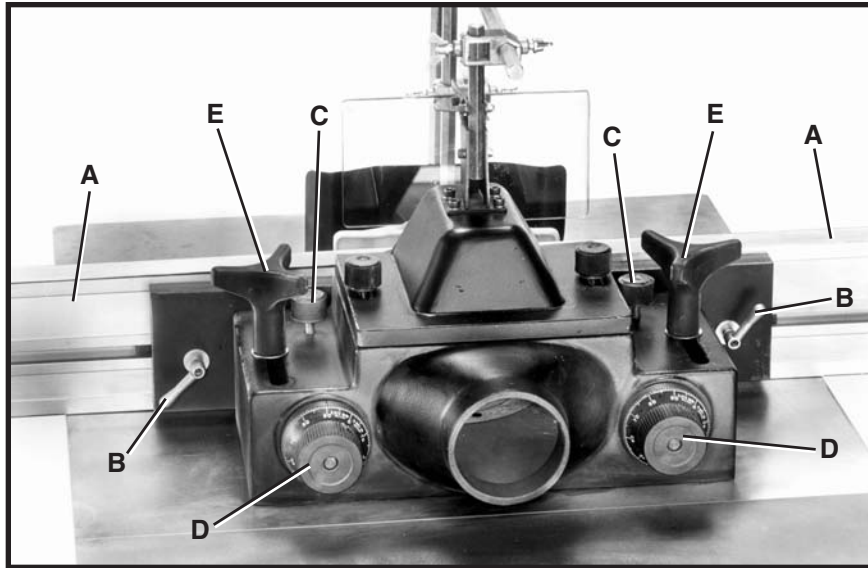

Fig. 48
1. **DISCONNECT SHAPER FROM POWER SOURCE. IMPORTANT:** The fence halves (A) Fig. 48, should be adjusted endwise so the opening at the spindle is never more than is required to clear the cutter.
2. To adjust the fence halves (A) Fig. 48 endwise, loosen the two fence locking levers (B), slide the fence halves to the required positions, and tighten locking levers (B).
3. Each fence half (A) Fig. 48, can be moved independently, forward or backward, depending on the type of shaping operation that is being performed. To move the fence halves in or out, loosen one of the lock knobs (C) and turn one of the adjusting knobs (D), depending on which fence half is being moved. Turn knob (D) until the correct setting is obtained and tighten lock knob (C).
4. The complete fence assembly can be rapidly positioned on the table by loosening two clamp handles (E) Fig. 48, moving the fence assembly to the desired position, and tightening the two clamp handles (E).